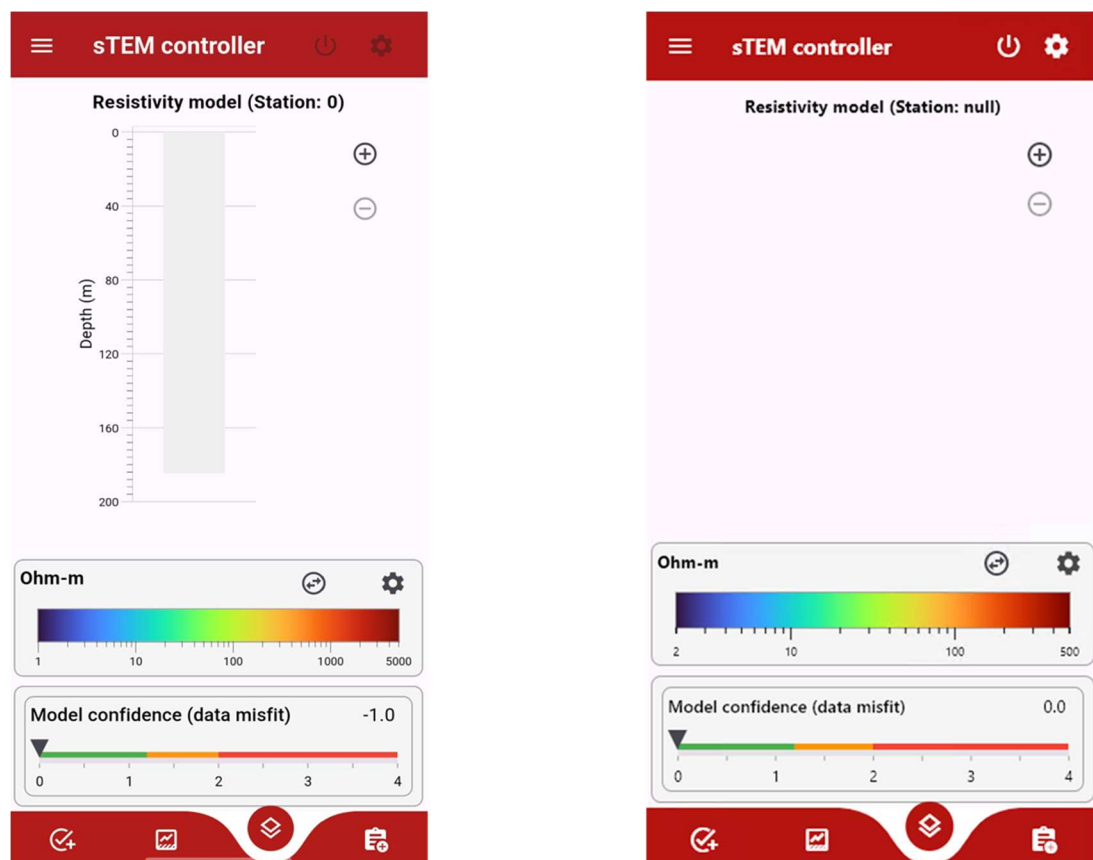

Figure 18. Situations where inversion models do not appear a) showing a grey bar and Station: 0 (left) b) showing blank window and Station: null (right)
1. A gray 1D model is displayed (see Figure 18).
2. The inversion window is completely blank (see Figure 18).